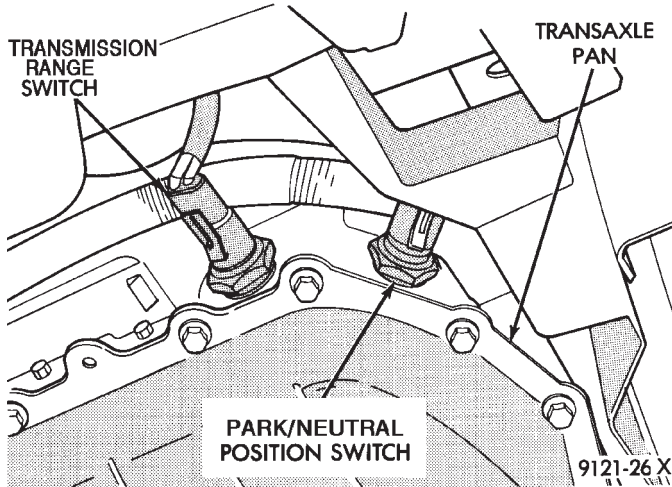

Fig. 4 Disconnect PRNDL Switch and Neutral Safety Switch
(9) Mark torque converter and drive plate with chalk, for reassembly. Remove torque converter mounting bolts.
(10) Disconnect electrical connectors at PRNDL switch and neutral safety switch (Fig. 4).